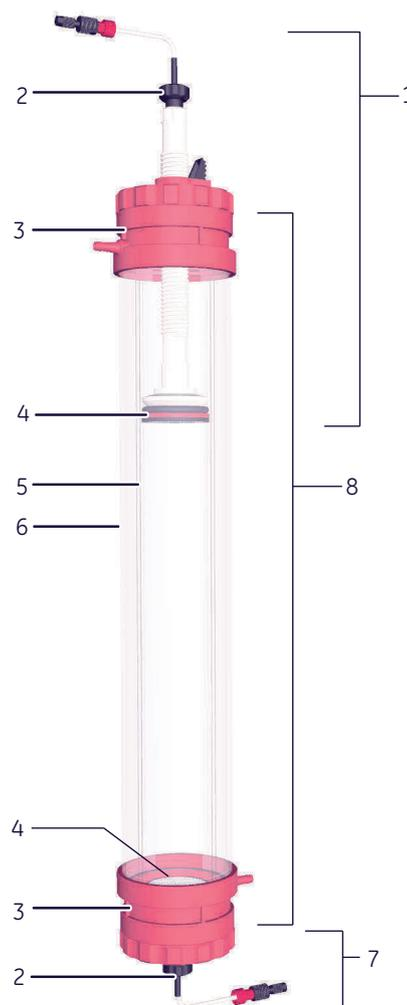
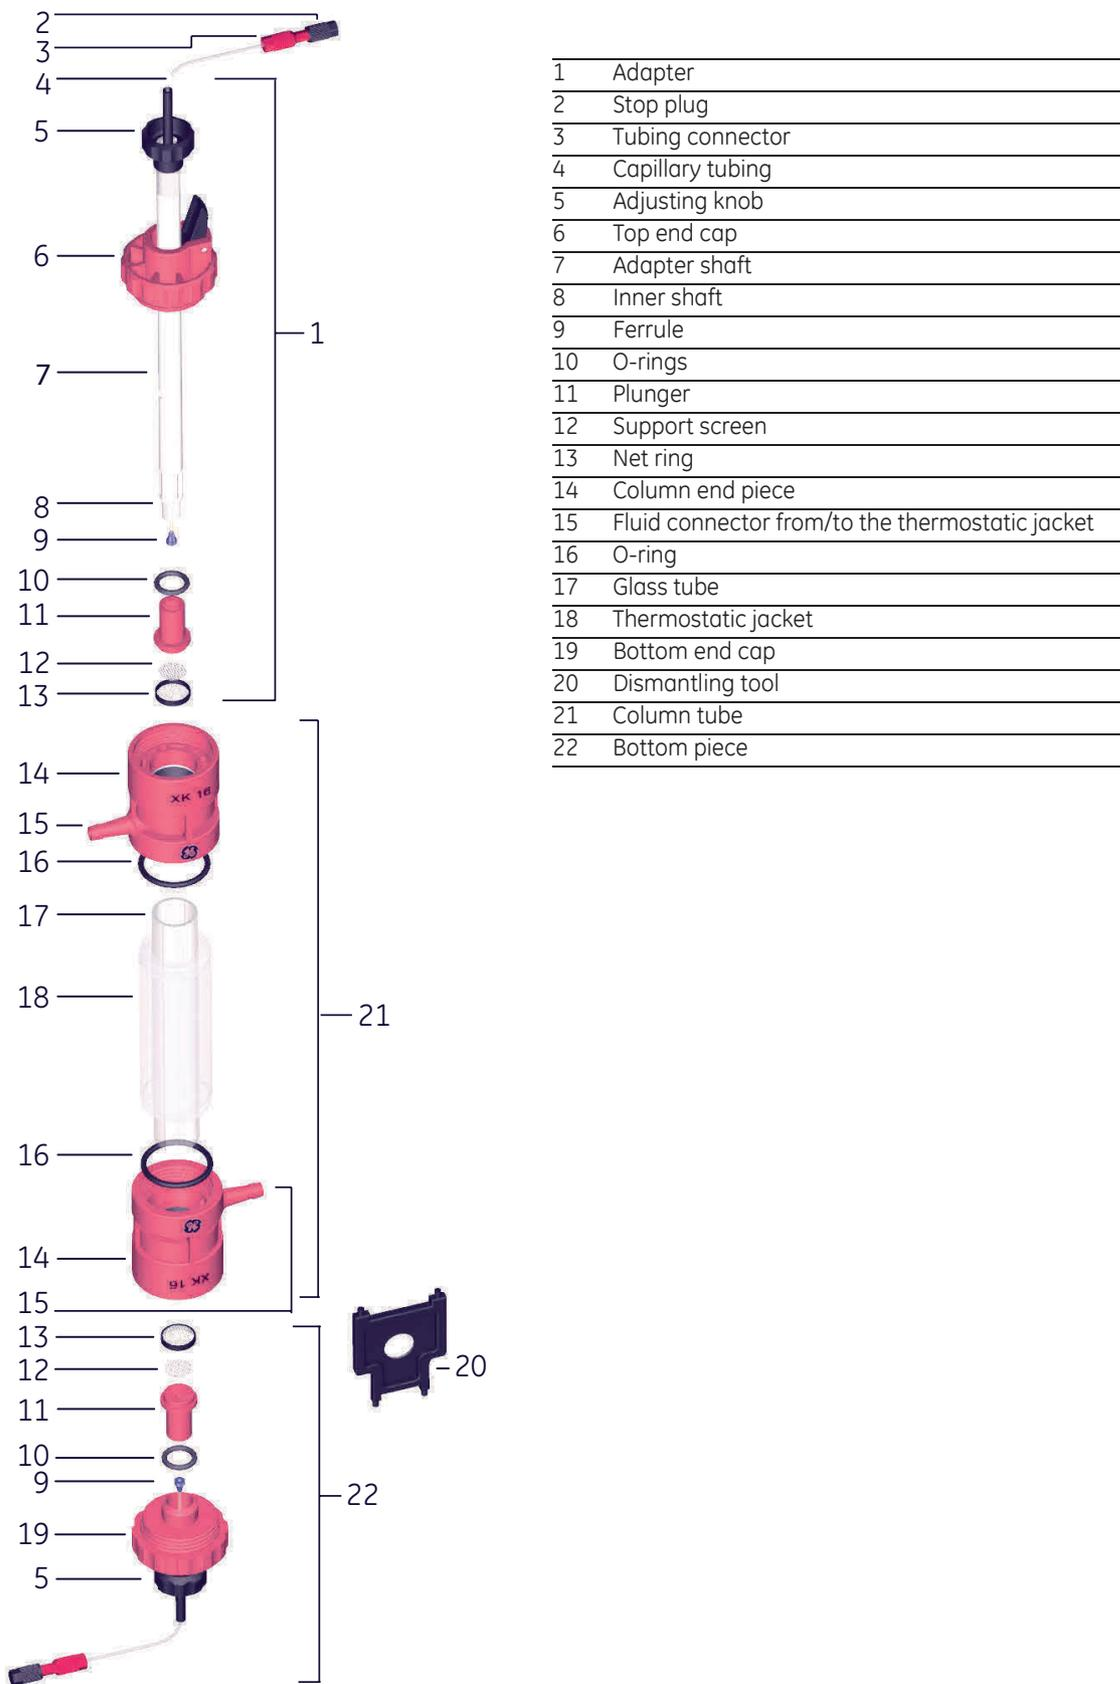

Fig. 1 XK adapter with an XK column.
Fig. 5 Exploded view of XK column with XK adapter.
The main parts of the column are shown in Figure 1. For a detailed view of the column parts, see the exploded view, Figure 5 on page 5.
See Figure 5 for details.
- 3 Screw the bottom piece (7) into the column end piece (3) (Fig 1).
Figure 5 shows the positions of the different parts of the XK columns. For replacements please order according to the spare parts list below using the appropriate code numbers.